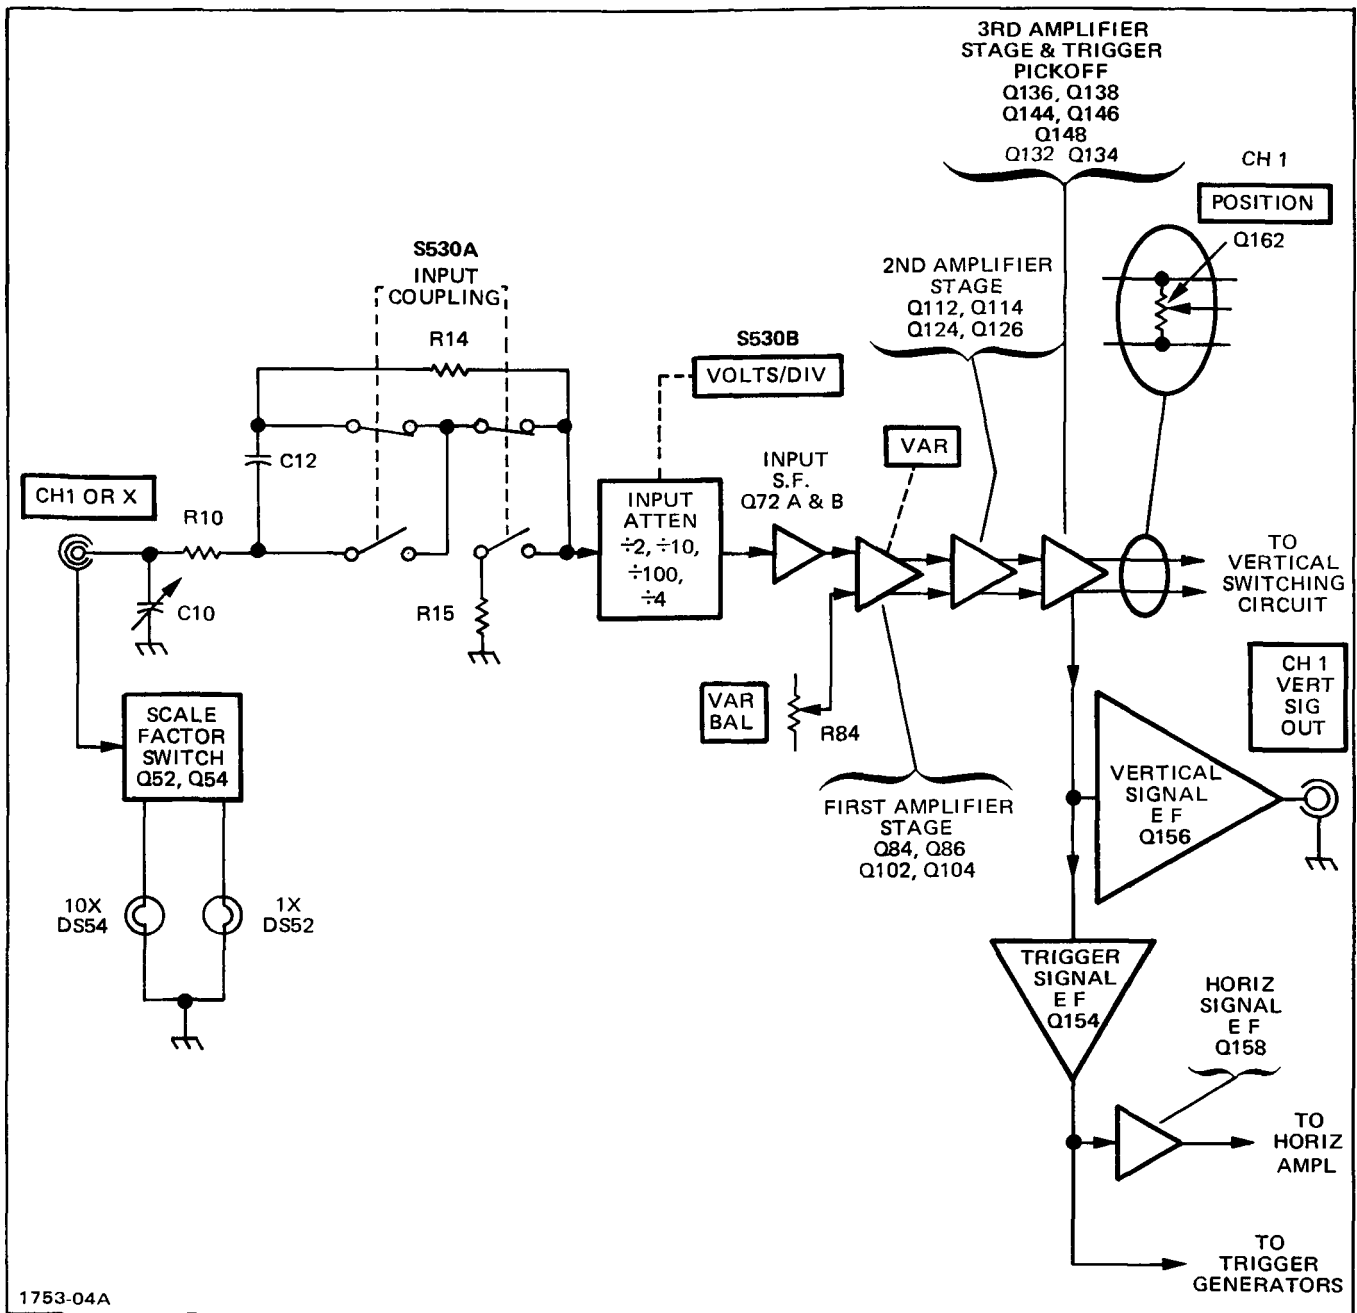

Fig. 3-1. Channel 1 Preamplifier Detailed Block Diagram.
**General.** Input signals for vertical deflection on the crt can be connected to the CH 1 OR X input connector. In the X-Y mode of operation the input signal connected to the CH 1 OR X connector provides the horizontal (X axis) deflection (TIME/DIV switch set to X-Y, VERT MODE switch set to CH 2 OR X-Y). The Channel 1 Preamp circuit provides control of input coupling, vertical deflection factor, gain and dc balance. Fig. 3-1 shows a detailed block diagram of the Channel 1 Preamp circuit. A schematic of this circuit is shown on Diagram 1 at the rear of the manual.